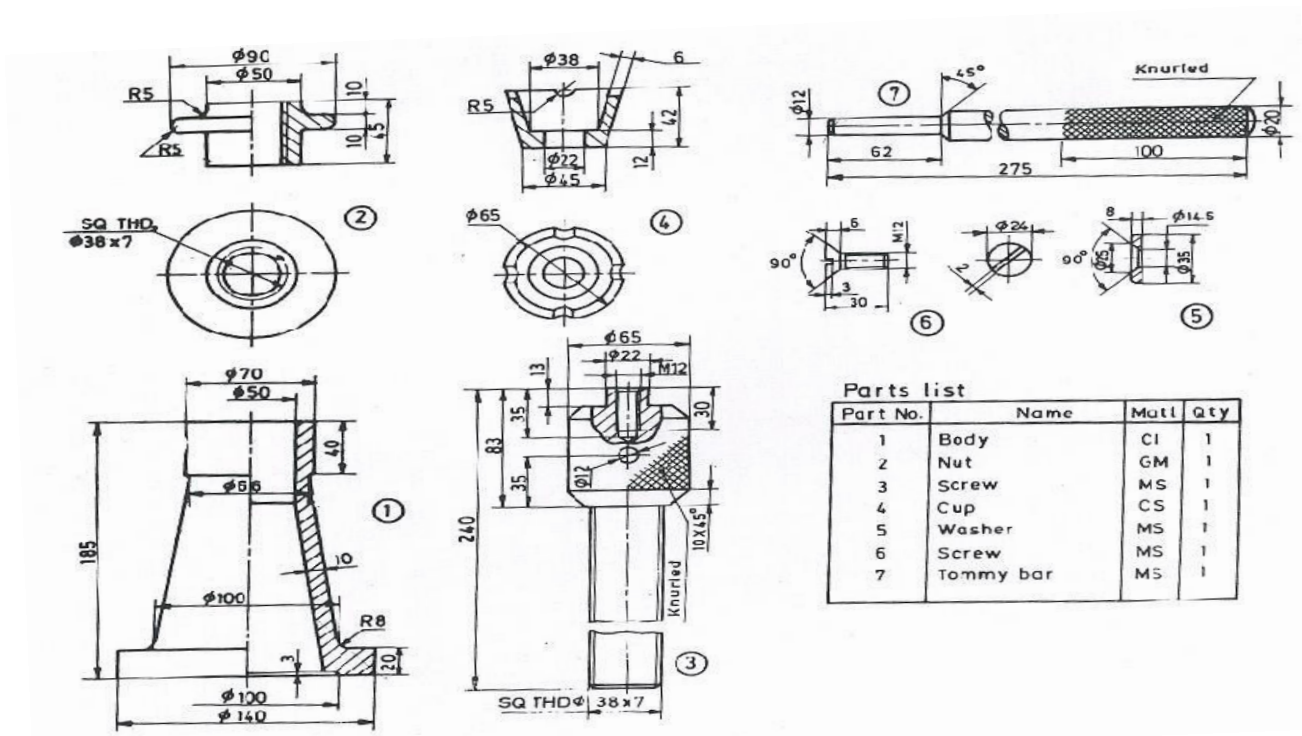

Fig.2 Details of Screw Jack
- The details of screw jack as shown in fig.2. Draw the following assembled views